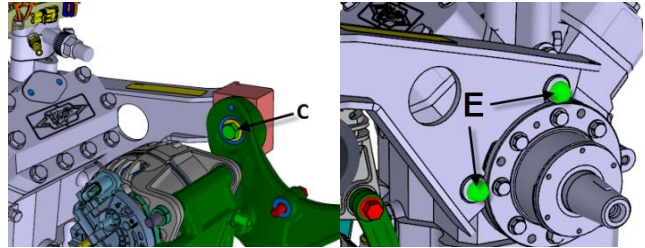

FIGURE 29
40. Tighten bolts **C** and bolt **E** (refer to FIGURE 29).